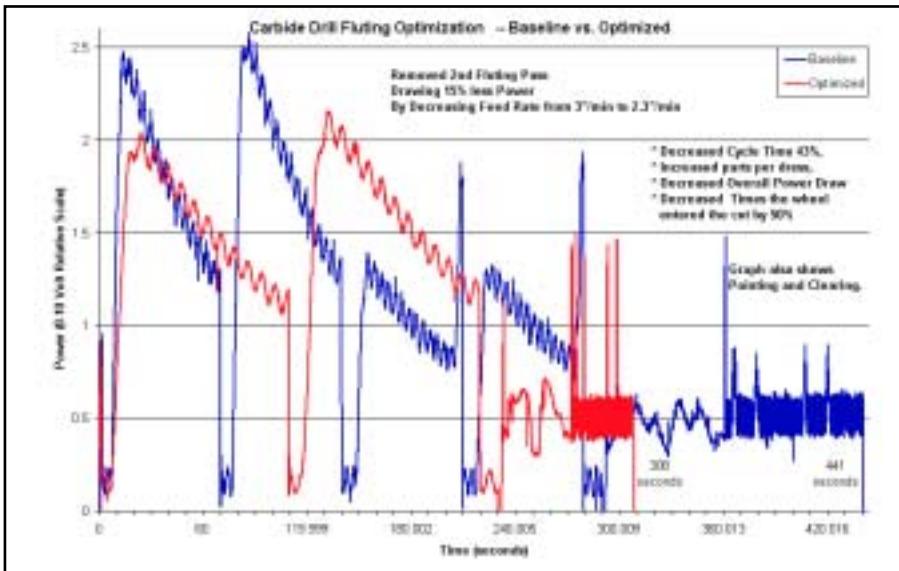

Figure 1: The FIS lowered power consumption 15 percent for one toolmaker, which cut cycle time by 43 percent.
■ In fluting, pointing and clearing operations for 0.312"-dia. carbide drills with a 2.375" flute length, the FIS allowed the author to provide one manufacturer the opportunity to eliminate a second fluting pass. This change drew 15 percent less power by decreasing the feed rate from 3 ipm to 2.2 ipm (Figure 1). The company also eliminated a power spike at the end of that pass. The result was a decrease in cycle time of 133 seconds, or 43 percent. The abrasive